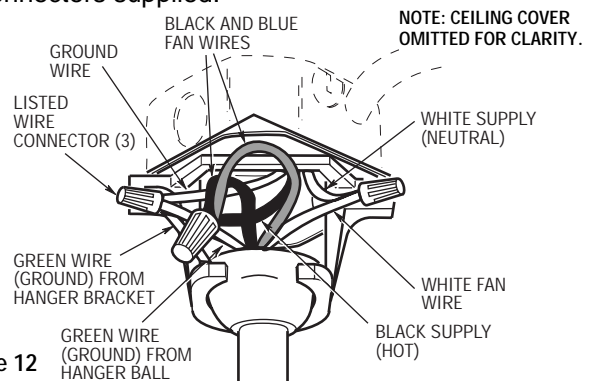

Figure 12
2. Securely connect the fan motor white wire to the supply white (neutral) wire using wire connector supplied (Figure 12). Securely connect the fan motor black wire and blue wire to the supply black (hot) wire using wire connector supplied (Figure 12). After connections have been made, turn leads upward and carefully push leads into the outlet box, with the white and green leads on one side of the outlet box and the black and blue leads on the other side of the outlet box.